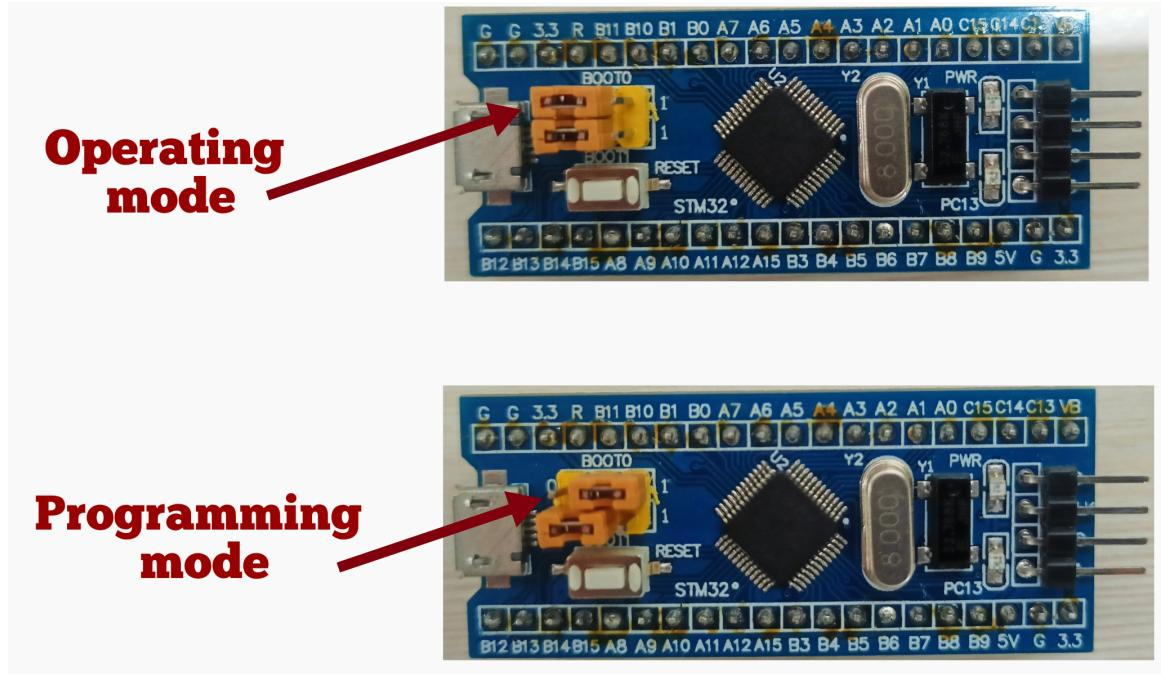

Figure 12.1.1.7.1: STM32 Operating and Programming mode
#### 12.1.1.7. To make the stm32 board into Programming mode, by setting the aligners to programming mode as shown in Fig 12.1.1.7.1. This configuration will ensure that the microcontroller enters the system memory programmer on reset.
12.1.1.11. After flashing, the inbuilt LED present on the stm32f103c8 will start blinking and then change the STM32 board to operating mode as shown in Fig 12.1.1.7.1 inorder run your code from the main flash memory.
12.2.3.6. Before flashing code to STM32 set the STM32 board to Programming mode as shown in Fig. 12.1.1.7.1, then change the mode to Operating mode as shown in Fig. 12.1.1.7.1 after flashing the code inorder to run your program from main memory.
12.3.2.5. Before flashing code to STM32 set the STM32 board to Programming mode as shown in Fig. 12.1.1.7.1, then change the mode to Operating mode as shown in Fig. 12.1.1.7.1 after flashing the code inorder to run your program from main memory.